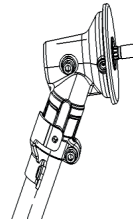
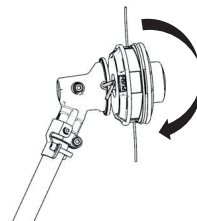

Fig. 4
Fig. 5
2. Rotate the drive shaft until you can see a hole inside the gear case side (Fig. 4), put the T20 TORX key inside the inside hole, and rotate the trimmer head onto the drive shaft by anti-clockwise, until it's tight enough (Fig.5).